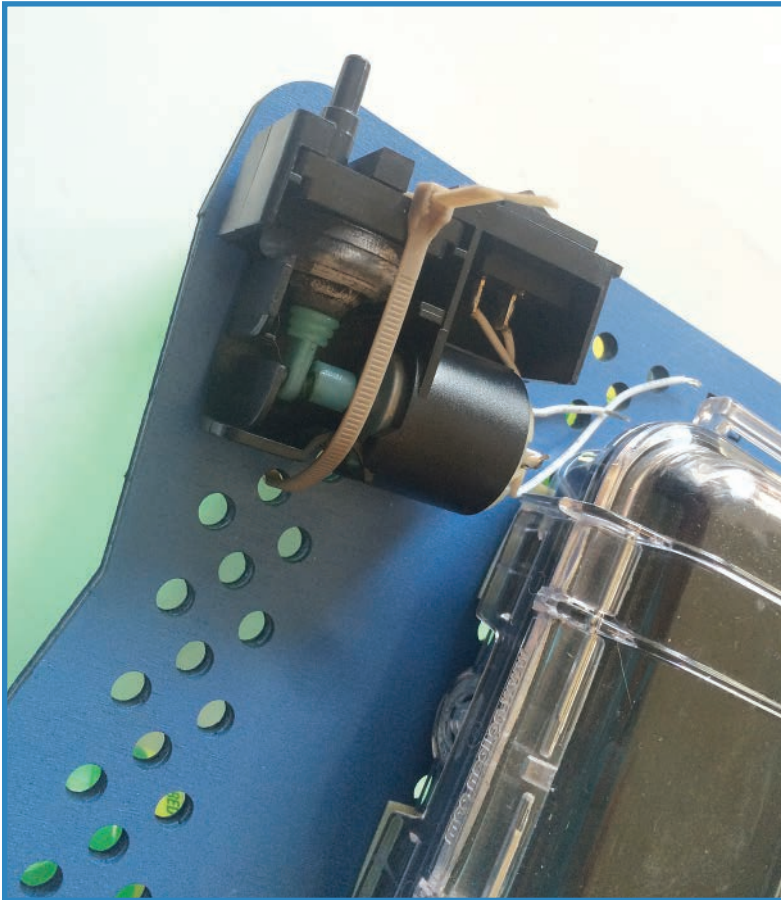

FIGURE 11.17 Attach the air pump with zip ties.
5. Attach the air pump to the chassis using a zip tie (see Figure 11.17). The output tube can point in any direction, as a length of plastic tubing will direct the airflow in the direction we want.